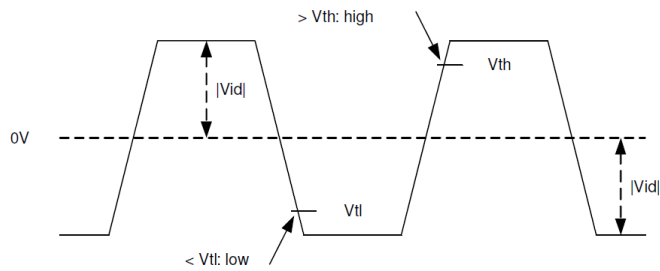

Figure 1: LVDS DC character
2. Contrast measurements shall be made at viewing angle of $\theta = 0^\circ$ and at the center of the LCD surface. Luminance shall be measured with all pixels in the view field set first to white, then to the dark (black) state. (See FIGURE 1 shown in Appendix) Luminance Contrast Ratio (CR) is defined mathematically.